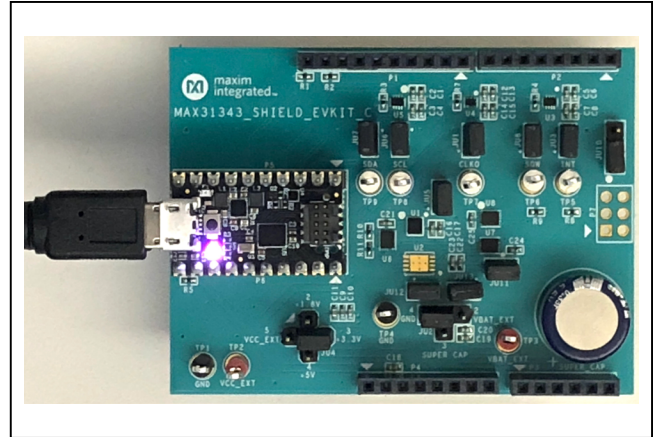

Figure 1. Connection and Setup
- 3) Connect the MAX32625 PICO board to the shield at the location shown as MAX32625 PICO (Figure 1).